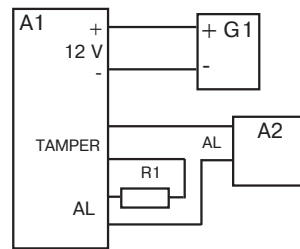
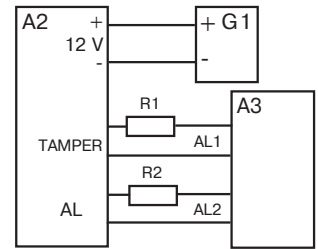

Figure 2
Figure 3
Fulfill the Detector connection in accordance with alarm loop (AL) connection pattern (Figure 2) or by separate alarm loops (Figure 3) to ensure alarm, tamper and masking messages transmission (A1 – Detector, A2 – single-loop CP, A3 – multi-loop CP, G1 – power supply unit, R1, R2 – CP terminal element).